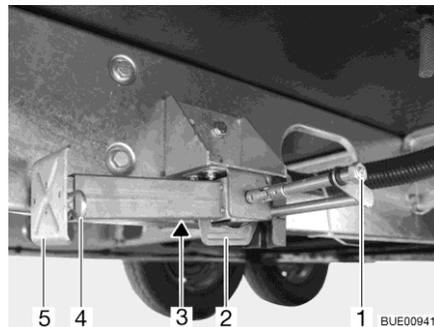

Fig. 60 Steady leg
- Place the socket spanner on the hexagonal nut (Fig. 60,1) and rotate until the steady leg is in a perpendicular downward position.
- If the length of the steady leg can be adjusted, remove the splint (Fig. 60,3) out of the support foot extension (Fig. 60,4).
- Place the socket spanner on the hexagon nut (Fig. 60,1) and rotate until the steady leg is clear of the ground.
- If the length of the steady leg can be adjusted, remove the splint (Fig. 60,4) out of the support foot extension (Fig. 60,5).
- Push in the support foot extension (Fig. 60,5) and insert the splint (Fig. 60,4) in the drilled hole in the support foot extension.
- Rotate the hexagonal nut (Fig. 60,1) until the steady leg has swung upwards and the guide (Fig. 60,2) has reached the very end of the slot (Fig. 60,3).